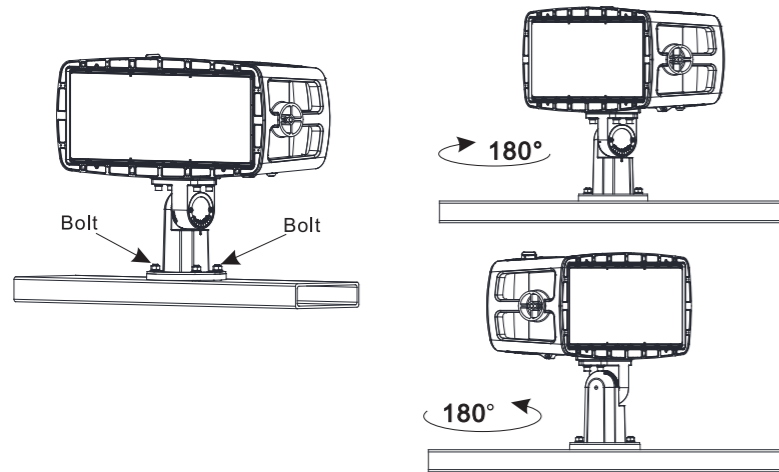

Figure 6
Set the left/right orientation by loosening the (2) bolts on the base of the universal Mount and turning the base then retorque the bolts to 22.2 ft. lbs. (Fig. 6)